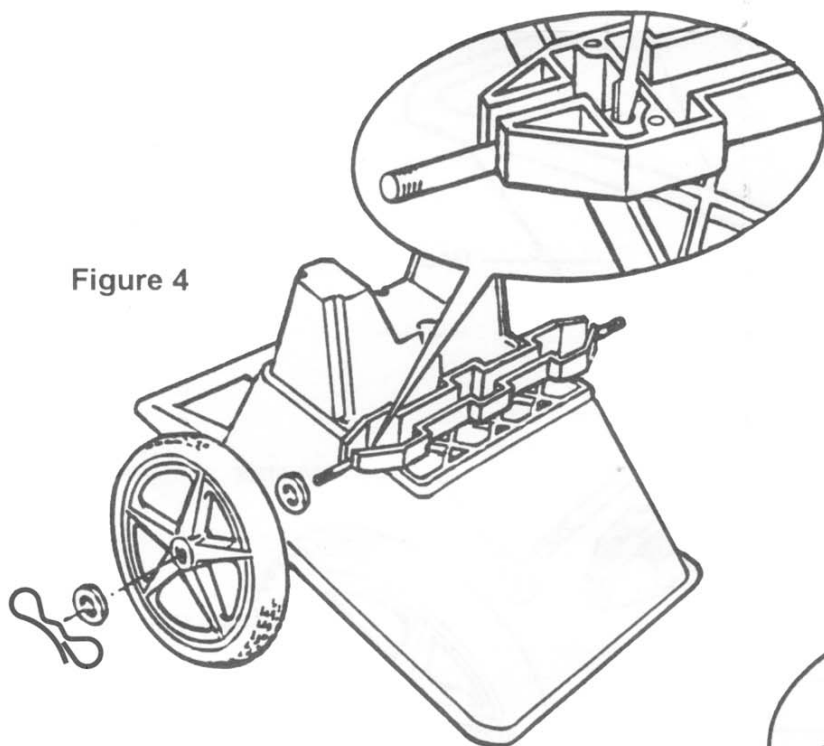

Figure 4
5. Place one nylon flat washer on axle. Place wheel on axle. Place another nylon washer on axle. Place self-locking nut on axle and tighten with wrench. To keep axle from rotating, place screwdriver in hole in axle. See Figure 4.